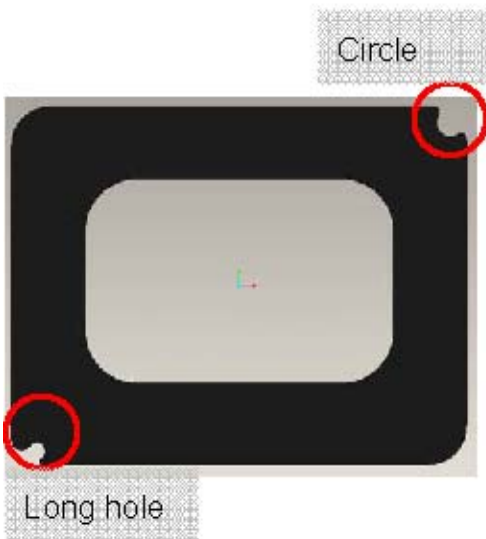

Fig 7-1
- I. There are two breach on the Baffle_DMD. One is “circle” and the other is “Long hole” (Fig 7-1)